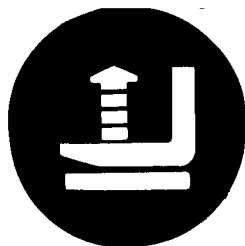

Figure 1-8.
1. Pulling the mast lift control lever towards the operator produces a lifting action of the mast forks. Pushing the mast lift control lever away from the operator produces a lowering action of the mast forks. (Figure 1-8).